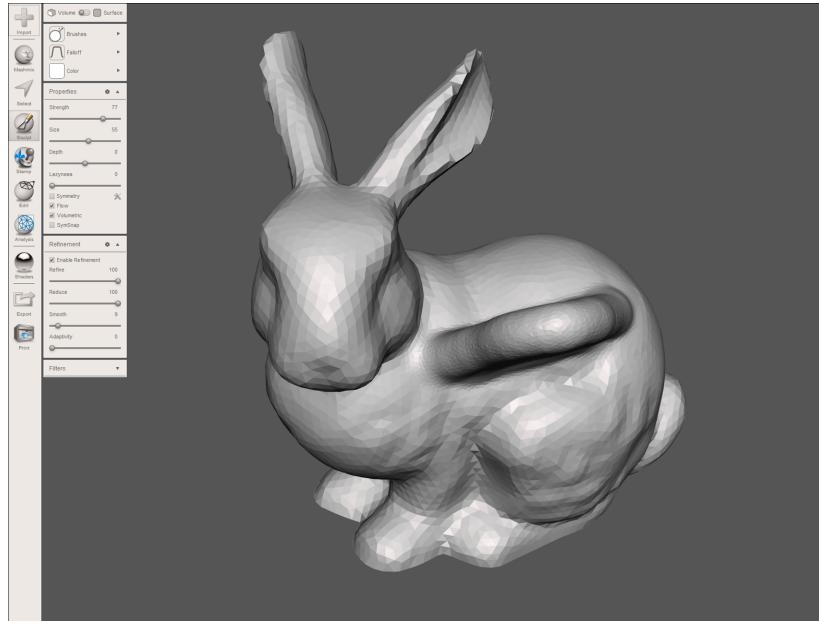

Figure 10-6. Properties and refinement areas are adjusted in the Sculpt tool
Before you start modifying the bunny, notice that there are settings that affect your brushes on the lefthand side. These options have a dramatic effect on how the tools work. For now, open up the settings windows to access the properties and refinement areas Figure 10-6, and adjust the settings to match the following.
3. Now, rotate your view so that you are looking at the left shoulder of the bunny. Hold your left mouse button down on the shoulder area, and while keeping the left mouse button down, start moving back and forth in a line as in Figure 10-6. If you spend a bit more time in the center than you do at the edges, you will be slowly building up a wing on the bunny.